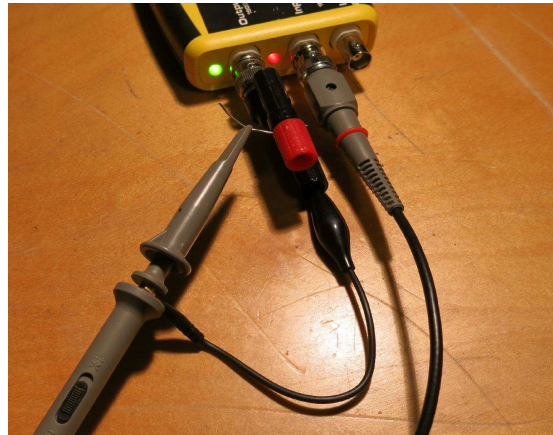

Figure 1: $\times 10$ Probe Compensation Adjustment
1. Refer to figure 1. Connect the oscilloscope probe to Channel A of the oscilloscope. Rotate the part of the probe near the BNC connector so that a small hole is visible from the top.